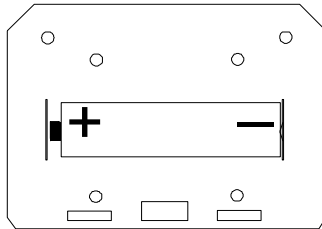

FIG 1. CORRECT POLARITY
N.B. Observe the correct polarity; see Fig 1 below.